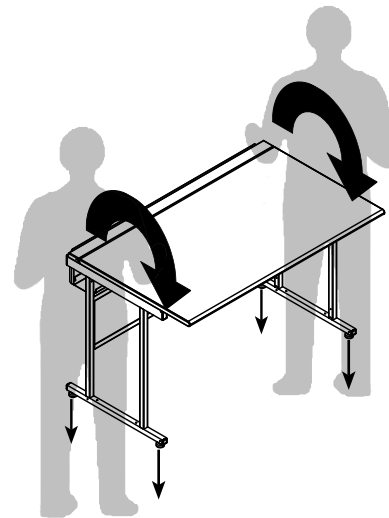

Figure 8
1. Using two people, carefully flip the assembled desk upright. **Figure 8.**